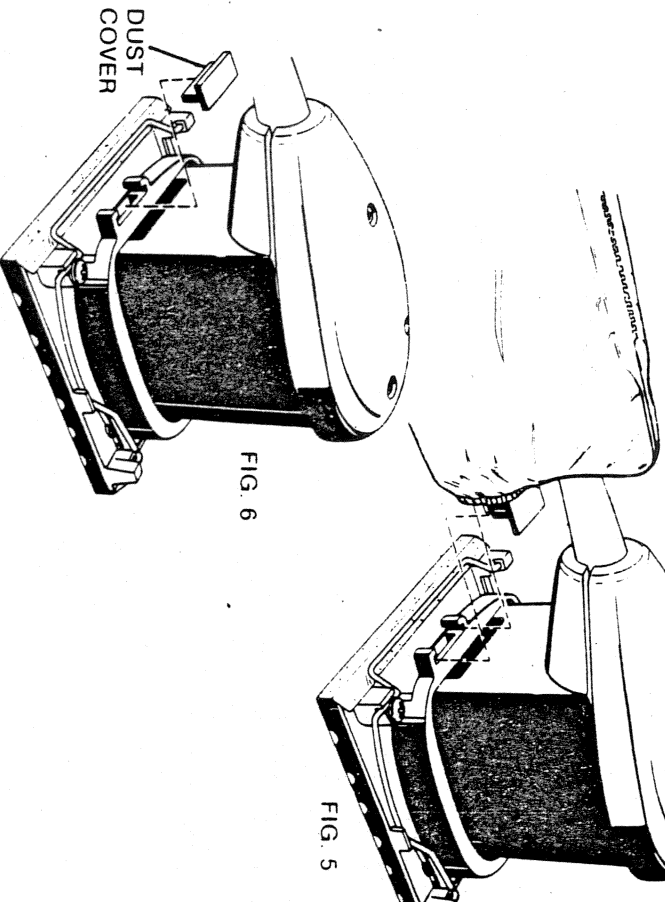

FIG. 5
3. Slide assembly into opening located on the cord set side of the sander. (Fig. 5)